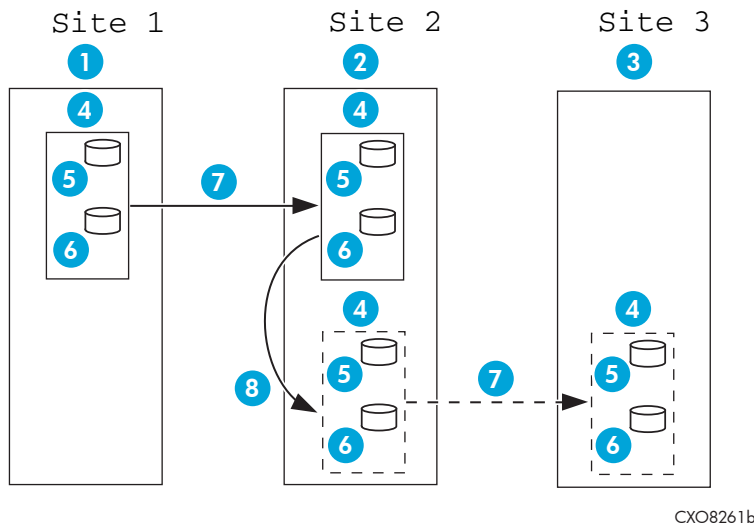

Figure 15 Data movement using snapclones example
For example, in Figure 15 a production environment contains a DR group that replicates between arrays at Site 1 and Site 2. The DR group contains two virtual disks (05–06vdisk1 and 05–06vdisk2) that are to be archived on another array (Site 3). A snapclone of each virtual disk is created on the Site 2 array. After presentation to a host (set up only for presentation purposes, but required for the creation of a DR group), these members are added to a DR group called DR snapclone1. This DR group now resides on a source array that replicates to the desired destination array (Site 3). At the remote location, you can remove the virtual disk members from the DR group, renamed, and archived.
1. Set up DR groups at the source (site 1 in Figure 15) and the destination (site 2 in Figure 15).
2. Set up the host on the intermediate site (site 2 in Figure 15) using HP Command View EVA:
5. Create a snapclone of each virtual disk on the intermediate array (Site 2 in Figure 15).
9. Present the snapclone(s) to the host on the intermediate site (site 2 in Figure 15).
12. Unpresent the host from the snapcloned virtual disks in the DR group on the intermediate array (Site 2 in Figure 15).
14. Delete the remaining snapcloned virtual disks from the intermediate array (Site 2 in Figure 15).
1. In HP Command View EVA, on the remote array (Site 3 in Figure 15), change the write protection of the mirrored snapcloned virtual disks to that of no write protection.